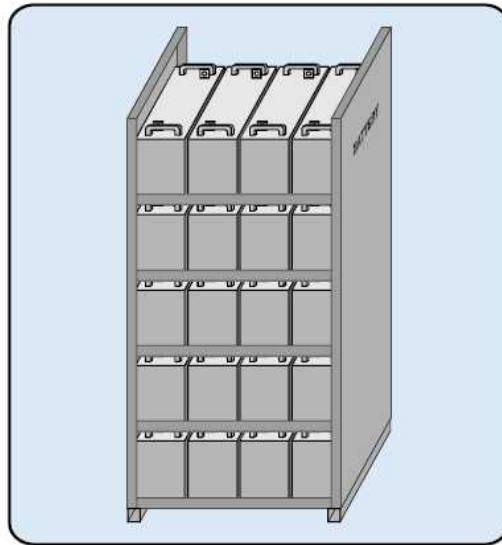

Figure 4
3. Cover the 1,2,3 and 4 racks. According to the accompanying wiring diagram and list to install the other batteries and wires. Shown as Figure 4.